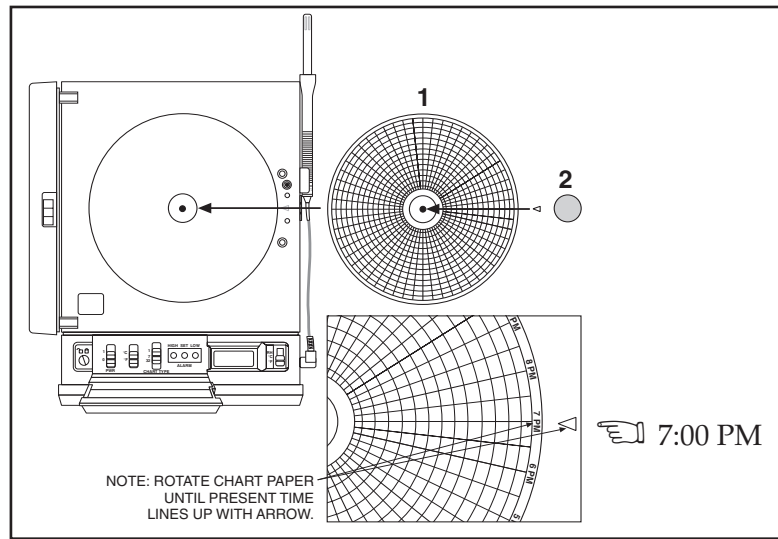

Figure 2-9. Changing Chart Paper and Setting the Time
3. Remove the magnetic chart paper knob (Figure 2-9, item #2) and any used chart paper.
4. Place the new chart paper (Figure 2-9, item #1) on the spindle and rotate it until the current time on the chart paper is aligned with the time arrow on the chart base of the recorder. See Figure 2-9 detail.
5. When the chart paper is correctly oriented, replace the magnetic knob (Figure 2-9, item #2), being careful not to alter the position of the chart paper.